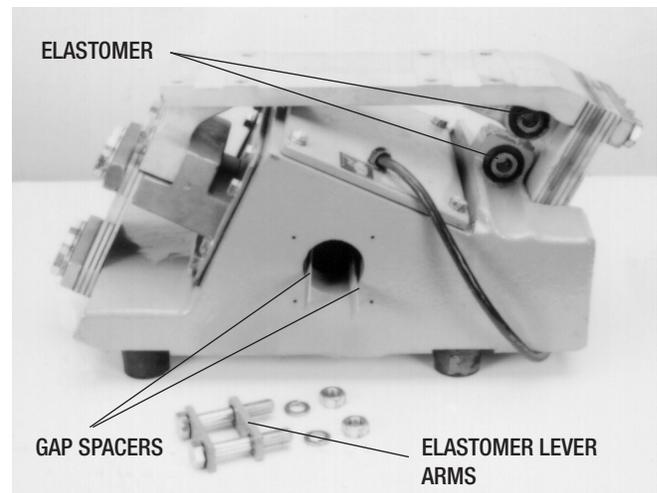

FIGURE 9
3. In replacing the elastomer, lay the unit on its side so that the chamfered ends of the spring holes are up. After making sure that the holes and their chamfered ends are clean and free from obstructions, lubricate the elastomer with a solution of water and 10% of liquid dishwasher soap (never use a petroleum or silicone lubricant) and press them partly into place with the thumbs. Then tap the springs 1/16"-1/8" past center, then back into place, again using the small supporting block between tiebar and work surface. Make sure that the springs go in straight and protrude equally at both ends of both spring holes (see Figure 9).